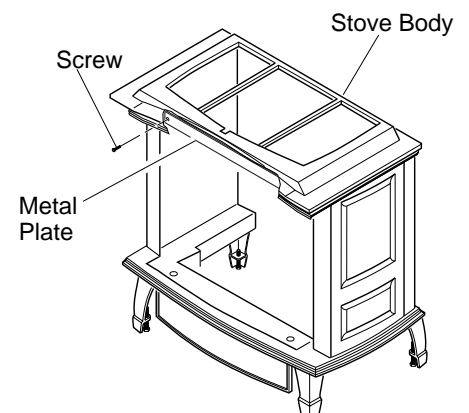

Figure 15 - Removing Metal Plate from Stove Body
- Remove the two screws that secure the metal plate located across the front section at the top of the stove body (see Figure 15). Discard these screws and metal plate. They are for vent-free use only.